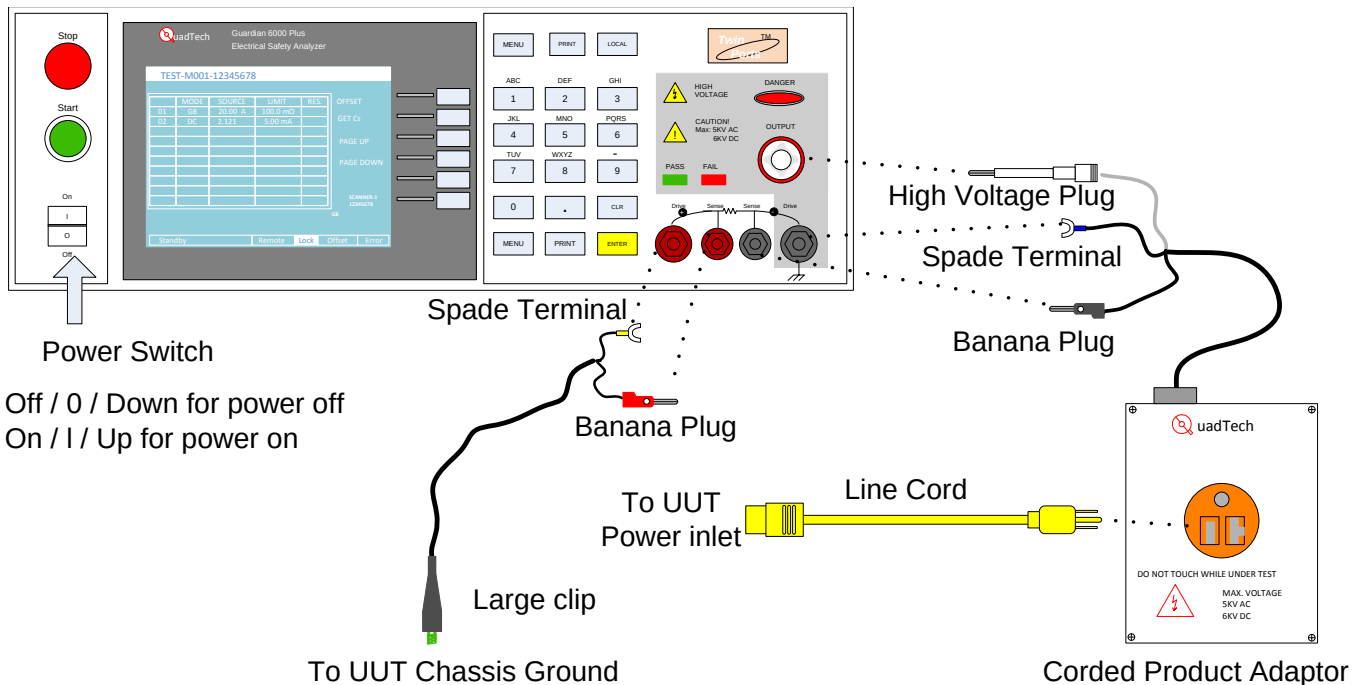

Figure 7 QuadTech Guardian 6000 Plus or Chroma 19032 setup
- 3.4. Connect the Corded Product Adaptor to the Guardian 6000 or as per Figure 7.